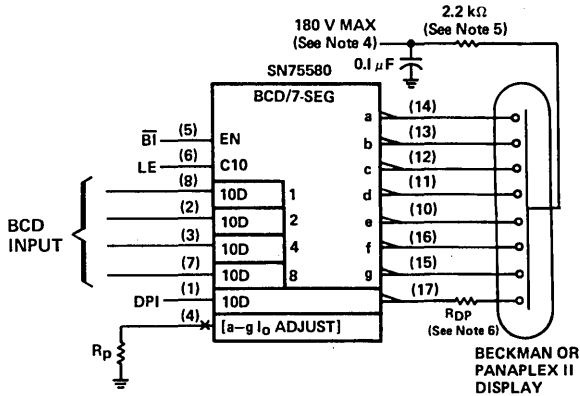

FIGURE 4—SINGLE-DIGIT 7-SEGMENT DISPLAY
3. In all applications, peak transient segment current must be limited to 50 mA ( $t_w \leq 10 \mu s$ , duty cycle  $\leq 1\%$ ). This may be accomplished in d-c applications by connecting a 2.2 k $\Omega$  resistor from the anode-supply filter capacitor to the display anode, or by current limiting the anode driver in multiplex applications (See Figure 4).